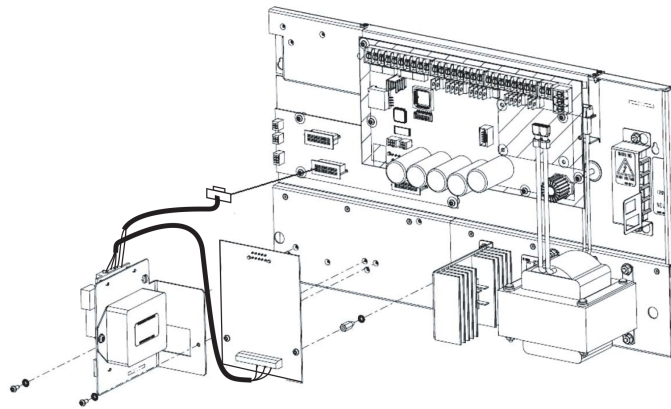

Figure 9: Installing the BACpac and RS-232 Modules in a 4010ES Bay
5. If the RS-232 module has not been installed yet, install it in a 4x5 block. Figure 9 shows it in the lower right block.
- Note:** Make sure the module is close enough for the RS-2332 cable to reach. Figure 9 shows it in the lower left block.
8. Connect the RS-232 harness wires to the RS-232 module per Figure 9 (Port B: Red to XMT, Black to RCV and Green to GND).